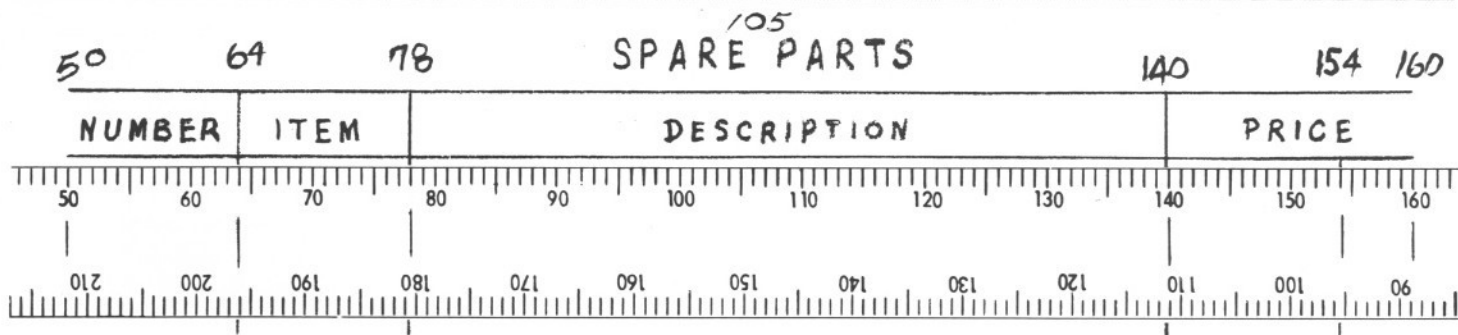

Figure 63
1. Loosen thumb screw and remove **horizontal plotting scale (34)** from machine.
2. Place it on rough draft so its "C" edge is toward top of form and align 50 mark with left margin of form (Figure 63). Form is 110 "C" units wide ($160 - 50 = 110$).